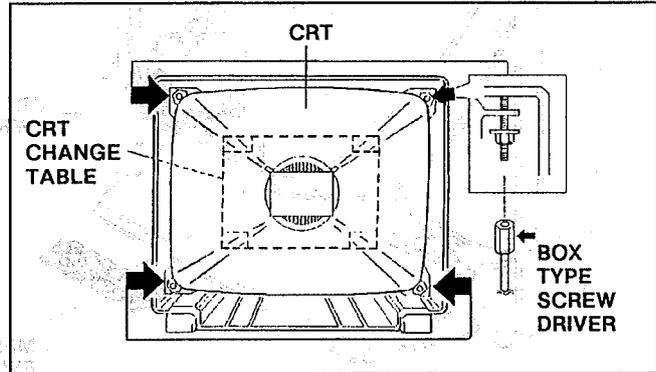
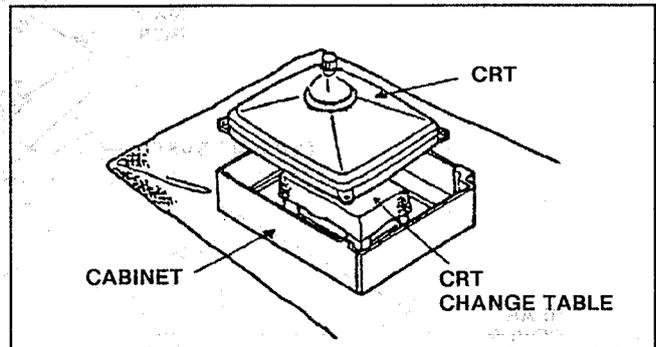

Fig. 5
Fig. 6
- 2. While keeping the surface of CRT down, mount the TV set on the CRT change table balanced will as shown in Fig. 5.
- 3. Remove four nuts marked by arrows with a box type screw driver as shown in Fig. 5.
- 4. After four nuts have been removed, put the cabinet slowly on cloth (At this time, be carefully so as not to damage the front surface of the cabinet) shown in Fig.6.
- 4] While the "THANK YOU!!" display is on, press the MUTE key and the UP/DOWN key immediately thereafter, and get the SERVICE MODE screen of Fig. 5.
- 5] While the screen of Fig. 5 is on, press the UP/DOWN key and the SERVICE MODE MENU will come back. (Fig. 6)
(Fig. 5)
(Fig. 6)
(2) Selecting SERVICE MODE MENU screen
- 1] Press the UP/DOWN key and select one of the following items. (Fig. 6)